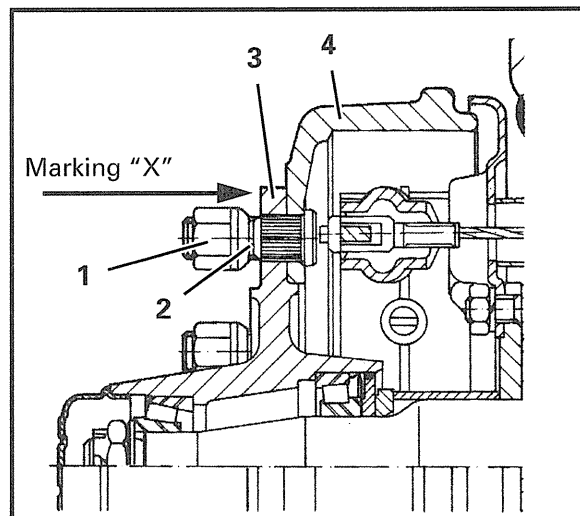

Fig. 94
- Tighten the wheel nut until the wheel bolt is seated flush (see Fig. 94).